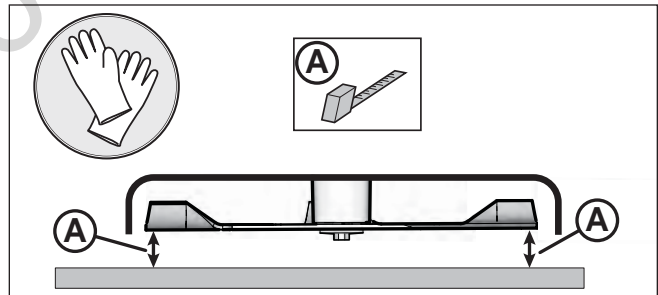

Figure 47. Checking the Blade Height Adjustment
7. See Figure 47. Position the outside mower blades so they face front-to-back.